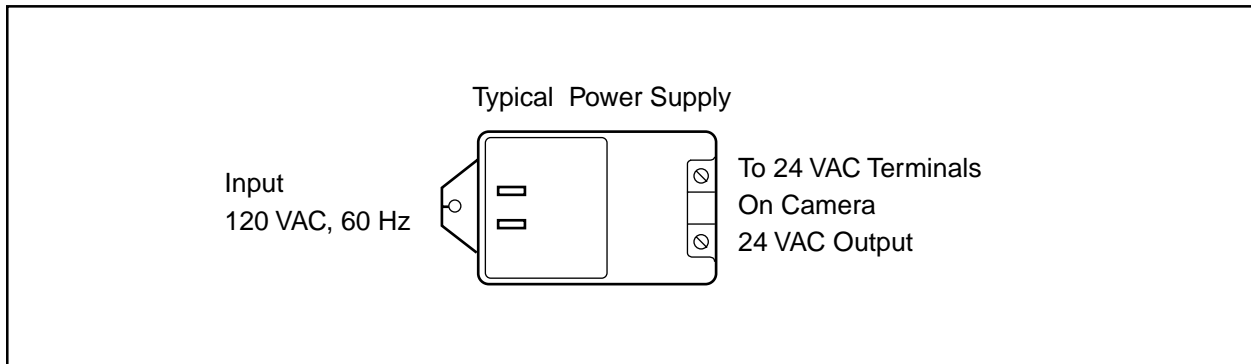

Figure 3. Typical 120 VAC to 24 VAC (60 Hz) Power Supply
- The CC3300-2 must always be operated with a **24 VAC, Class 2 (60 Hz)** power supply (not supplied). A wall transformer (as depicted in Figure 3) is an example of a common power source.